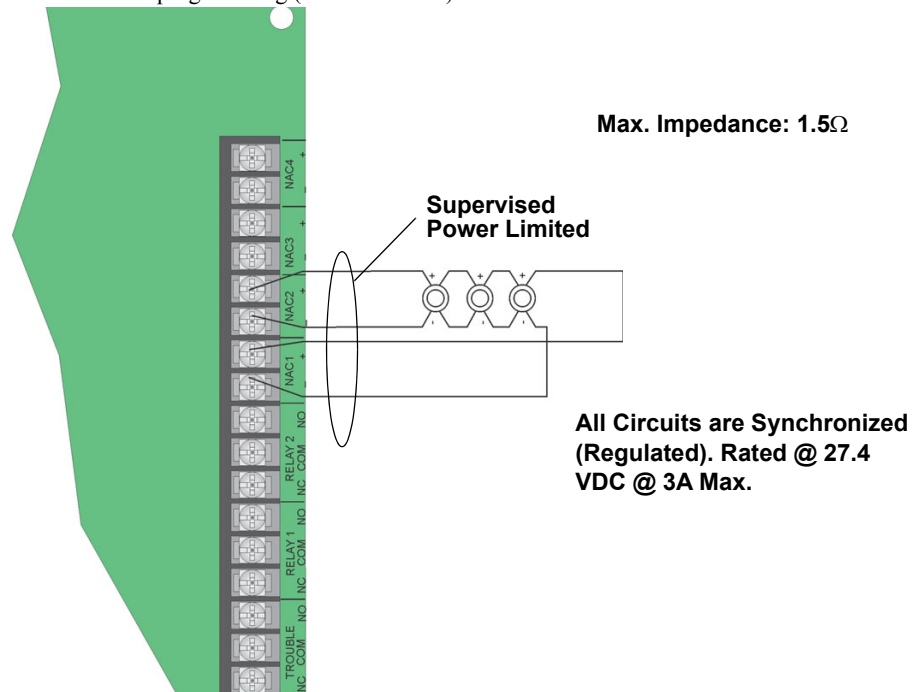

Figure 4.44 Class A Notification Appliance Circuit Configuration
1. Wire the Class A notification appliances as shown in Figure 4.44.
1. Wire the NAC circuit(s) that will be used for auxiliary power. See Figure 4.44 for location of NAC circuits.